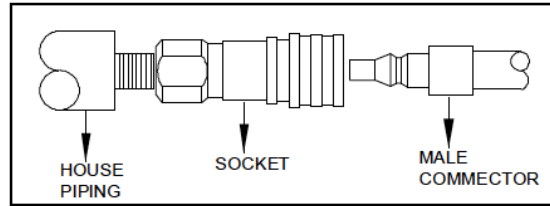

FIG 04.
- E. Connect the NG hose assembly to fixed NG piping system. (FIG. 04) Turn on gas supply and do the leak testing as the procedures shown on page 26 of main manual. Read all lighting instructions on main manual prior to lighting.